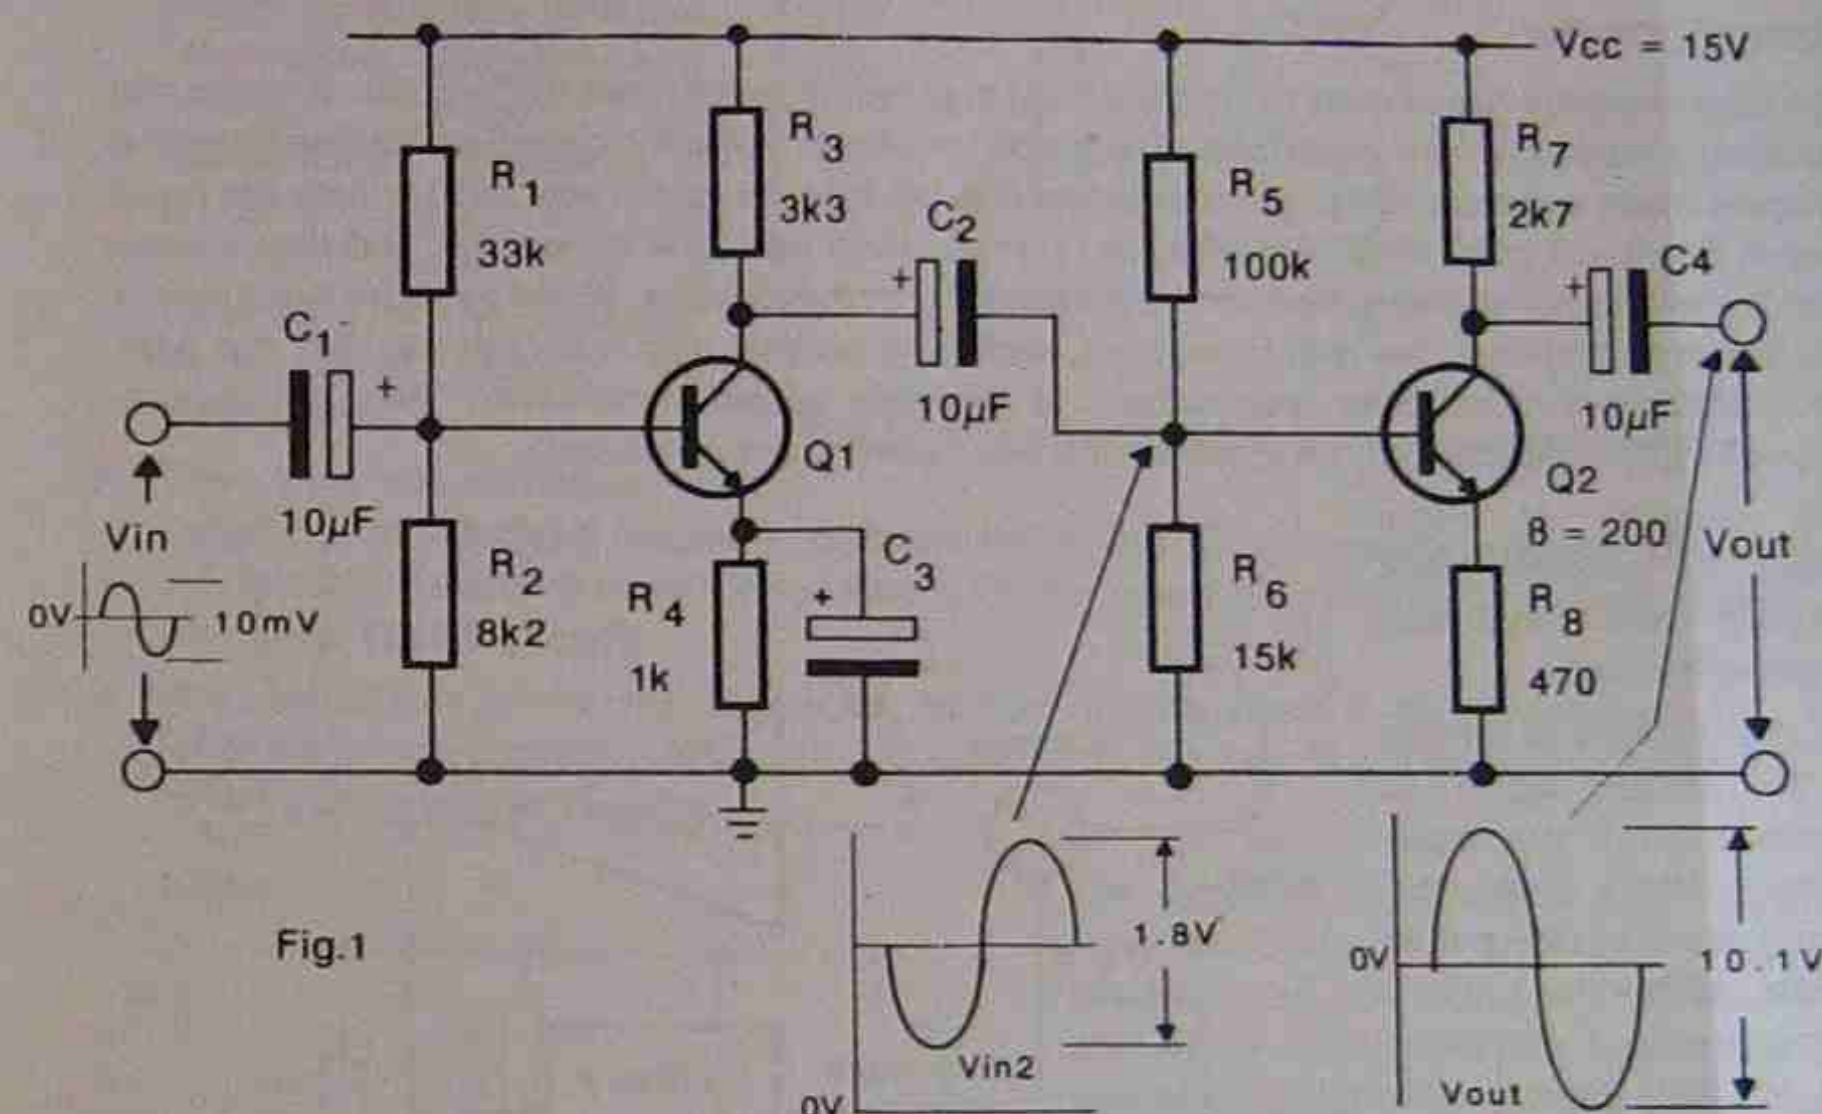

Fig.1
- For the circuit of Fig.1, calculate the following: